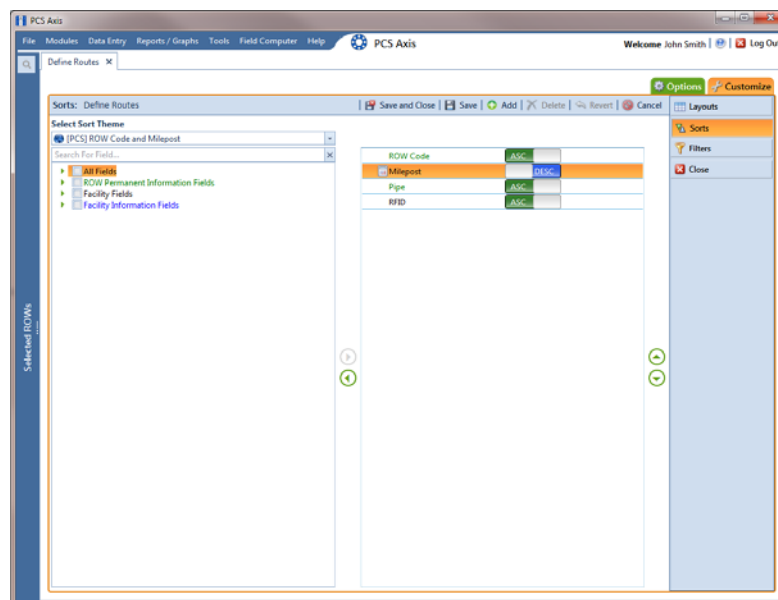

Figure 7-45. Sorts
- 3 Click the **Customize** tab , then the **Sorts** button  to open the *Sorts* page (Figure 7-45, page 332).